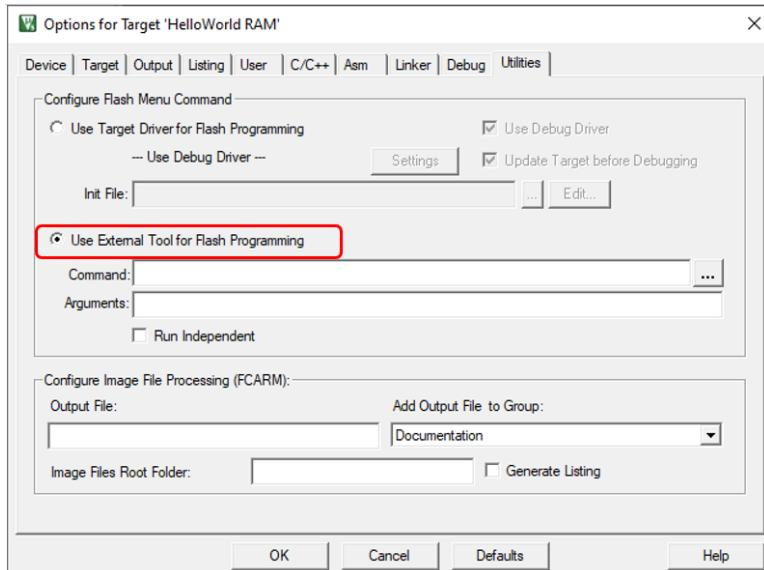

Figure 8.31: Keil IDE: Target Option Utilities Configuration for RAM Target.
7. Select the Utilities tab and select the radio button beside “Use External Tool for Flash Programming” (see Figure 8.31).